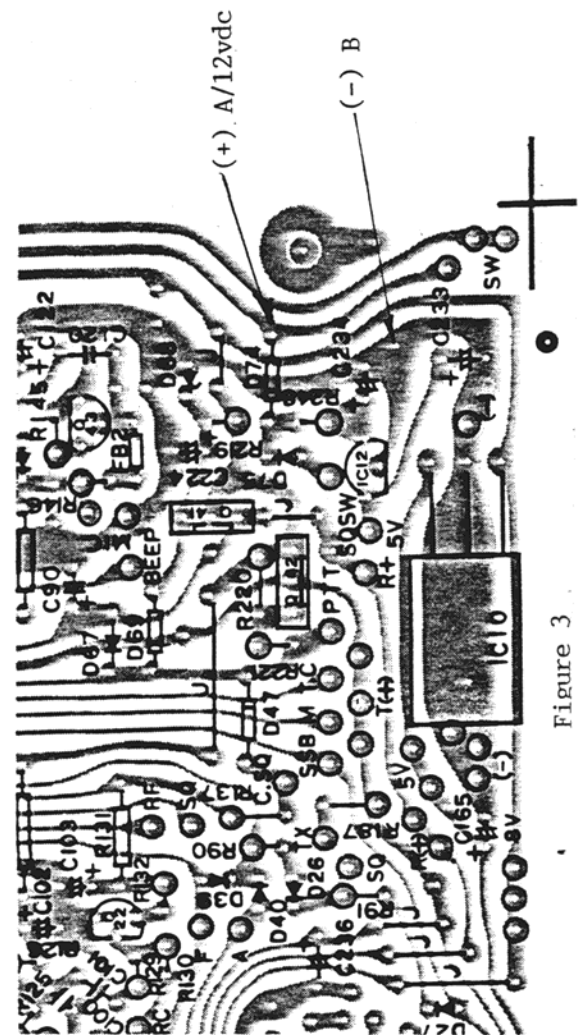

Figure 3
14. Solder red wire on Scanning mic circuit card, to a +12vdc source. (See Fig.3 Spot marked "A")
15. Solder black wire on Scanning mic circuit card, to ground. (See Fig.3 Spot marked "B")
SEE FIG 3.